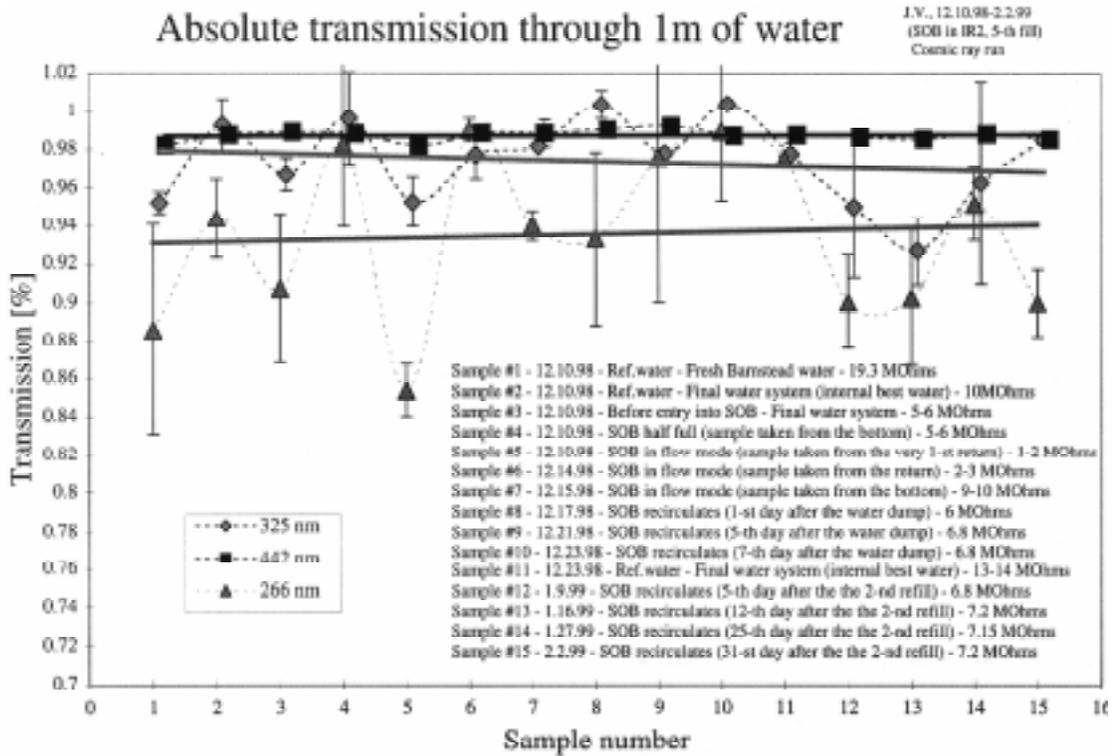

Fig.3
- 3.2.8. Compare data with the previous measurements (see Fig.3).